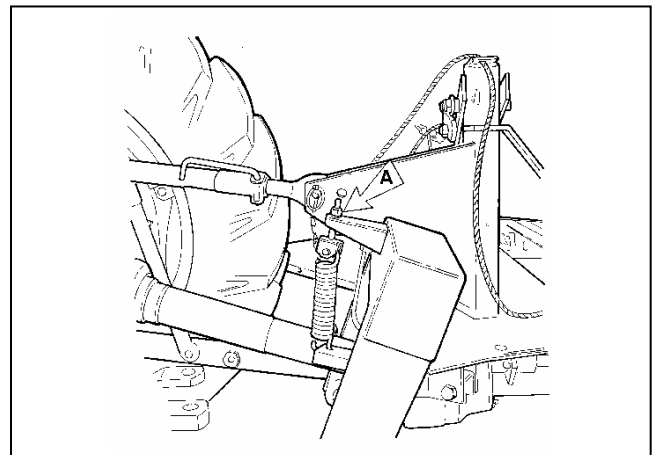

Fig. 11
**FIG. 11** The drum mower is provided with a safety release allowing the boom to swing backwards when the front pressure becomes too heavy, e.g. when the machine drives against firm objects such as a tree, a pole, earthfast stones etc. If the safety release has been activated it is brought back into mesh in working position by driving backwards with a strong jerk. If the machine releases too easily while driving the spring is tightened a little more **A**.